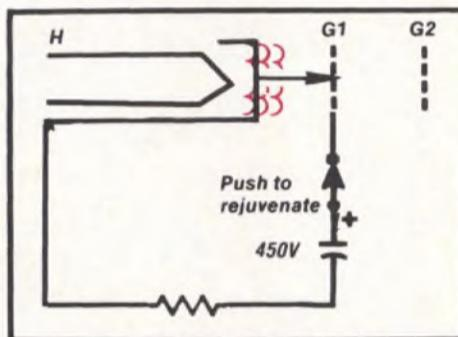

Fig. 5: The CR70 places a protective resistor in series with a 450 volt capacitor to limit cathode current during rejuvenation.
**Fig. 5: Most conventional FS meters measure the video carrier incorrectly, because the carrier is only at full amplitude during the sync pulses. Horizontal sync is present only 7.5% of the time.**